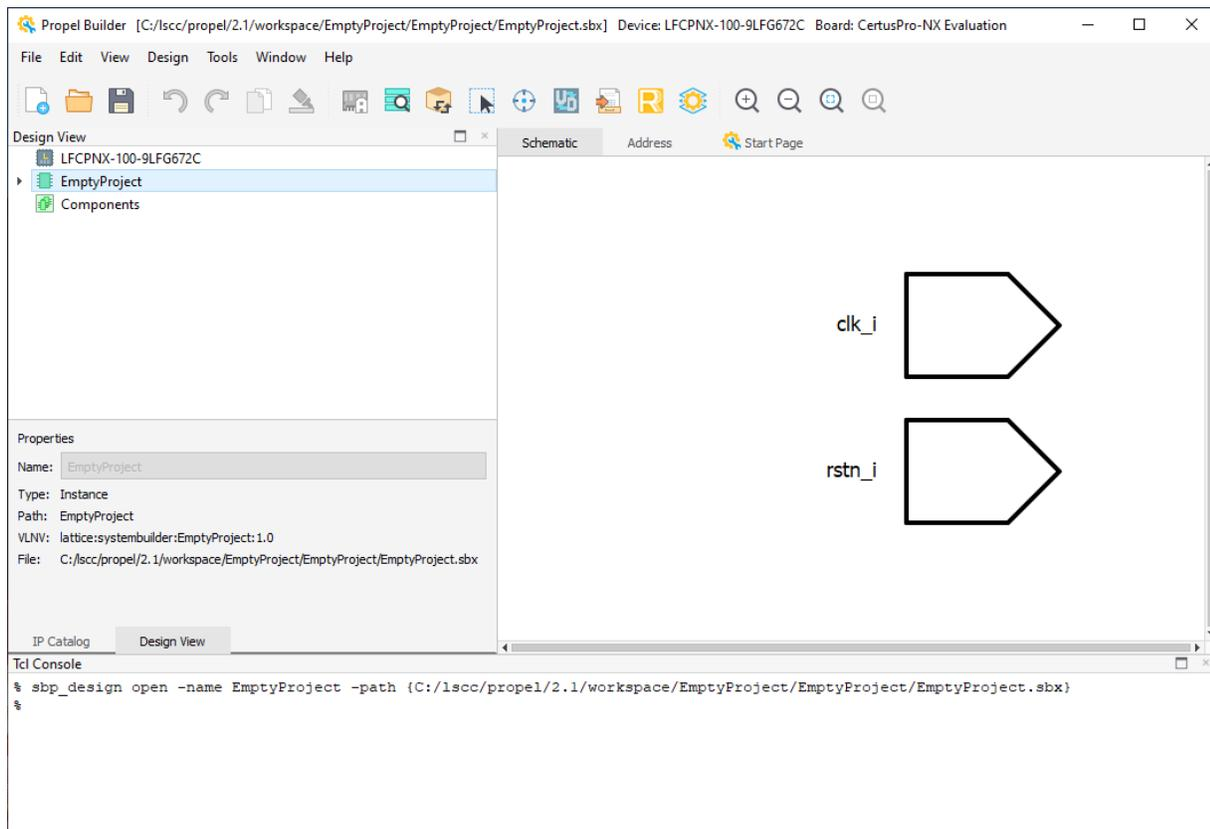

Figure 2.7. Propel Builder GUI Shows Empty Project
- Click **Finish**. Propel Builder GUI opens (Figure 2.7).